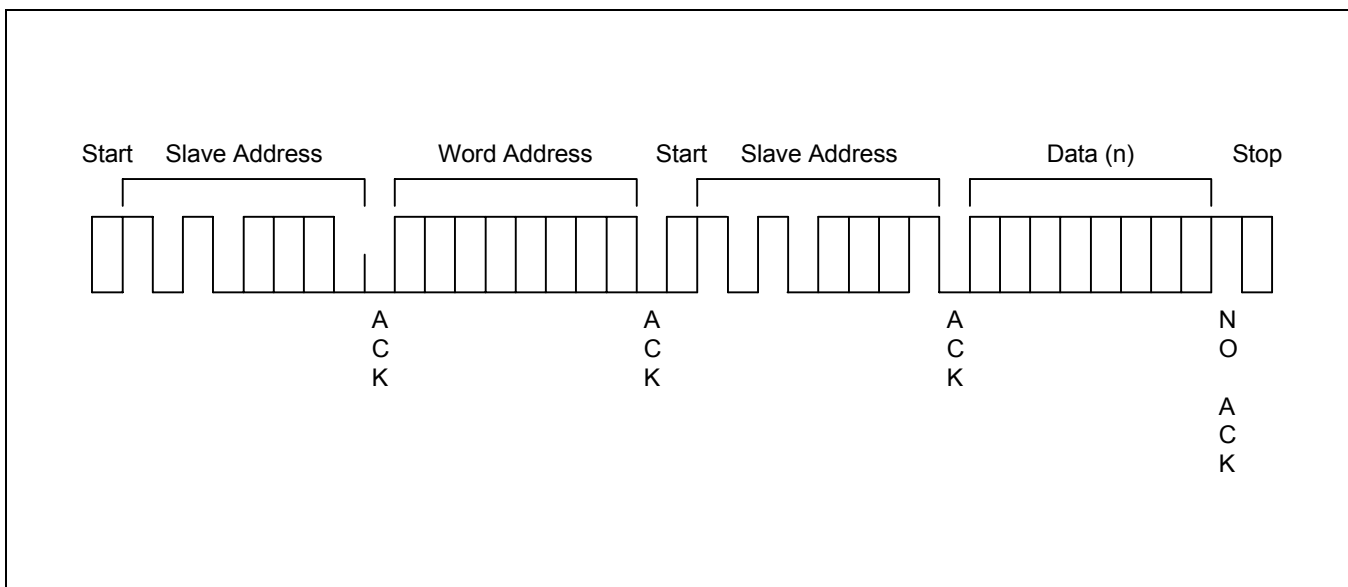

Figure 1-14. Random Address Byte Read Operation
5. In response, the KS24C010/011/020/021 stops transmitting data and reverts to its stand-by mode (see Figure 1-14).